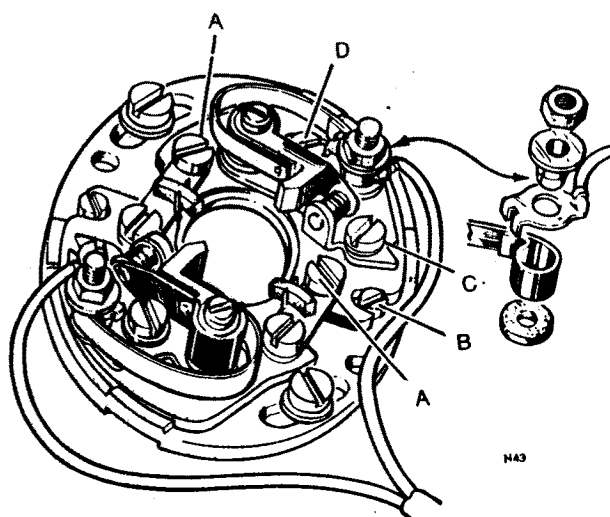

Fig. C54 Lucas contact breaker
- 11 Using the same technique, check that the contact breaker points open at 28° B.T.D.C. on the firing stroke for the second cylinder. If incorrect, make adjustment by movement of the secondary backplate. To do so, slacken screws (A) in Fig. C54 and use the eccentric headed adjusting screws (B) to move the mounting plate. When timing is correct, re-secure the screws (A).
- 8 If timing is incorrect for the left cylinder, correct by slackening off the clamping screw for the secondary backplate for this set of points then use the eccentric headed adjusting screw to move the secondary backplate (see Fig. C54—secondary backplate screws are marked "A" and eccentric screws are marked "B"). Recheck timing with the stroboscope and when correct, secure the screws "A".
Mark III models have the Lucas 10 CA contact breaker assembly, providing a separate and independently adjustable contact set for each cylinder, see *Fig. C54*. Each contact set is mounted on its own crescent-shaped assembly plate that is fixed to the circular base plate by two screws (A). When these screws are loosened, the assembly plate can be moved in relation to the ignition cam (and the base plate) by the eccentric screw (B). This permits a very accurate setting of ignition timing for each cylinder, independently.
Before reassembly, smear the contact breaker pivot post and the cam very sparingly with Retinax "A" grease and add three drops of engine oil to each lubricating felt. When reassembling ensure that the insulating washer, contact breaker spring, terminal and insulating bush are fitted in the order shown in *Fig. C54* and that the terminal tags are inside the curve of the spring. Finally retune the ignition as described in Section C39.